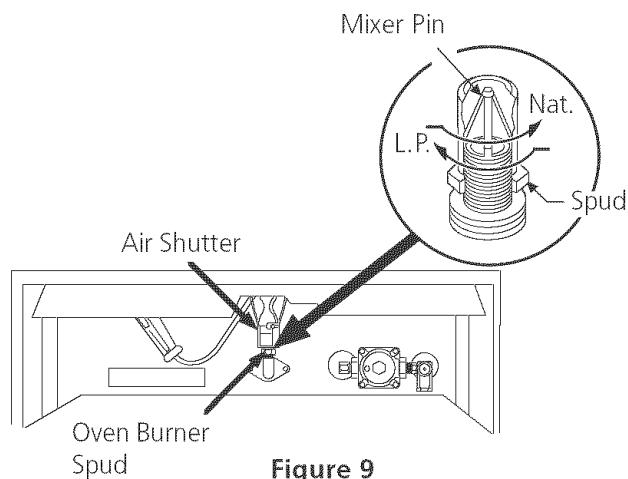

Figure 9
B. Adjust Oven Burner Orifice (see figure 9)
Using a $\frac{1}{2}$ " wrench, turn the adjustable spud clockwise approximately $2\frac{1}{2}$ turns until it is snug against the gas mixer pin. Do not overtighten (see figure 9).
- F. Adjust the oven burners. Using a $\frac{1}{2}$ " wrench, turn the adjustable spud counterclockwise approximately $2\frac{1}{2}$ turns until it is moved away from the gas mixer pin (see figures 9 & 10).